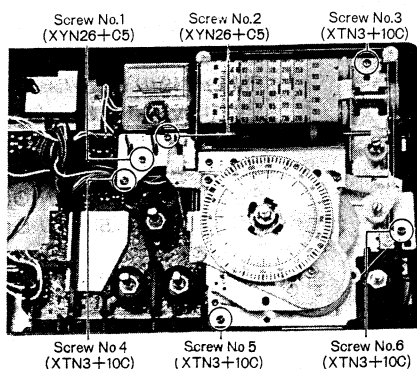

Fig. 6
10. Remove the six (6) screws (nos. 1~6) for the dial drive assembly, as shown in fig. 6.